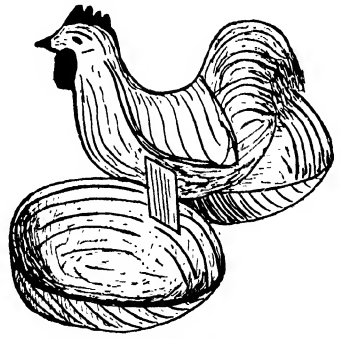
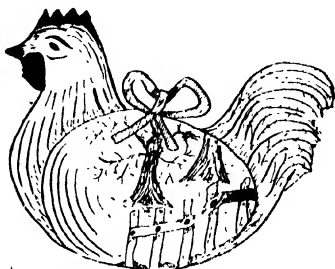

Fig. 251.—Eggshell Pin-tray.
Fig. 252.—Eggshell Pin-tray Closed.
**Pin-tray.**—Cut a suitable egg in halves lengthways, put slips of card inside adjacent edges, and fasten a cardboard hen between them, forming a pin-tray (Fig. 251), which can be closed and fastened with narrow ribbon as Fig. 252.